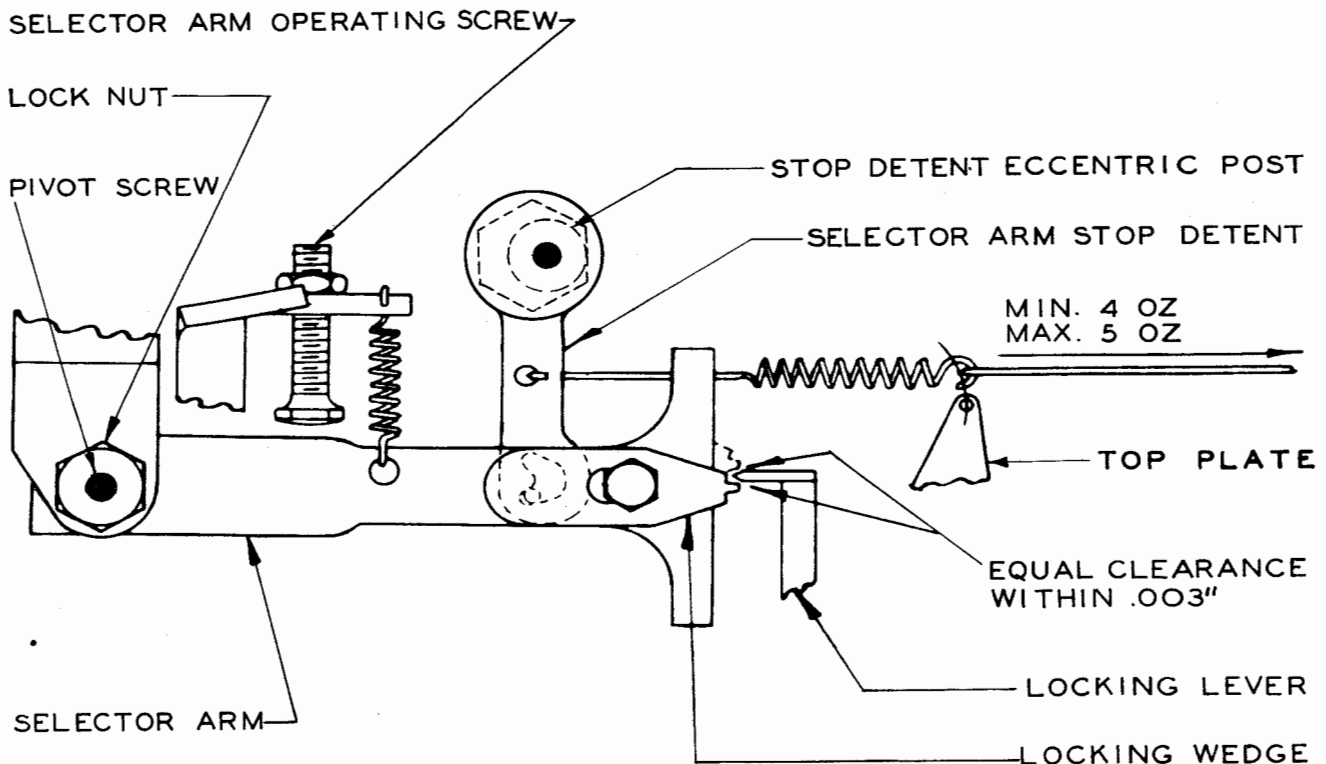

Figure 9
2.11 Locking Lever (holding magnet) should clear the sides of the locking wedge by equal amounts within 0.003 inch, as indicated in Figure 9, as gauged by eye when the selector arm is in its operated or unoperated position.
2.12 Selector-arm Stop-detent Spring (holding magnet) should require a pull of minimum 4 ounces, maximum 5 ounces, as indicated in Figure 9, to stretch the spring to position length.